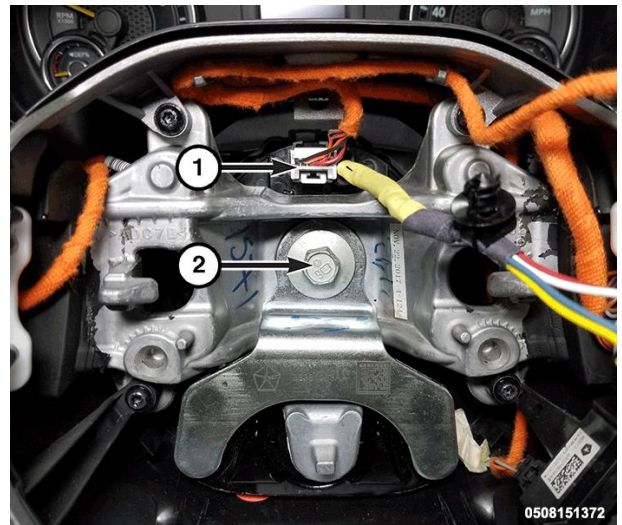

Figure 22 – Steering Wheel Wire Harness Connectors
14. Disconnect the steering wheel wire harness connectors (1) (Figure 22).
16. Remove and **DISCARD** the steering wheel bolt (2) and retain the damper if equipped (Figure 22).
12. If equipped, position the damper to the steering wheel, then install a **NEW** steering wheel bolt and tighten the nut to 61 N·m (45 ft. lbs.) (Figure 22).